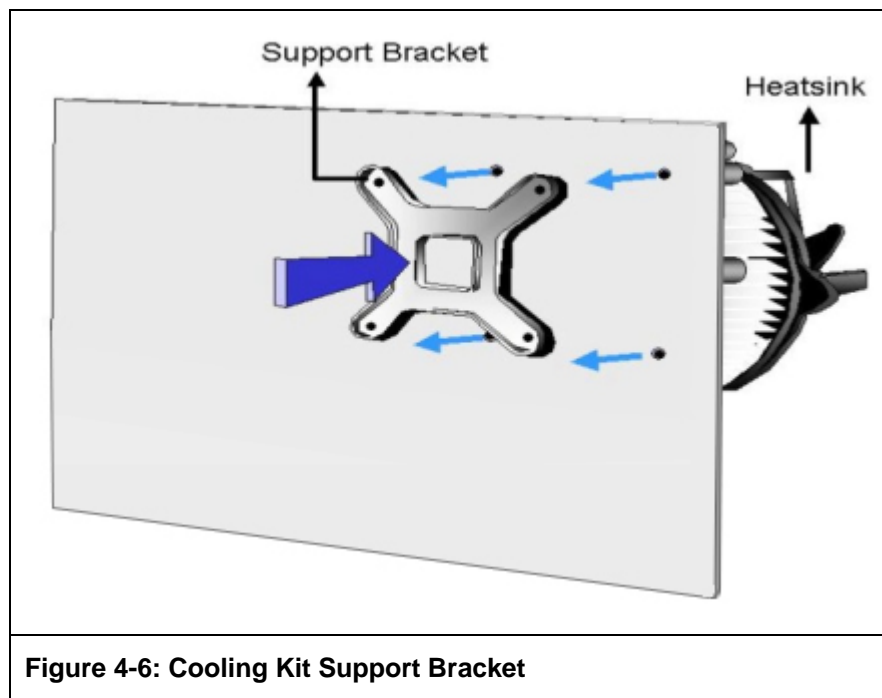

Figure 4-6: Cooling Kit Support Bracket
Step 1: A cooling kit bracket is pre-installed on the rear of the motherboard. See **Figure 4-6**.